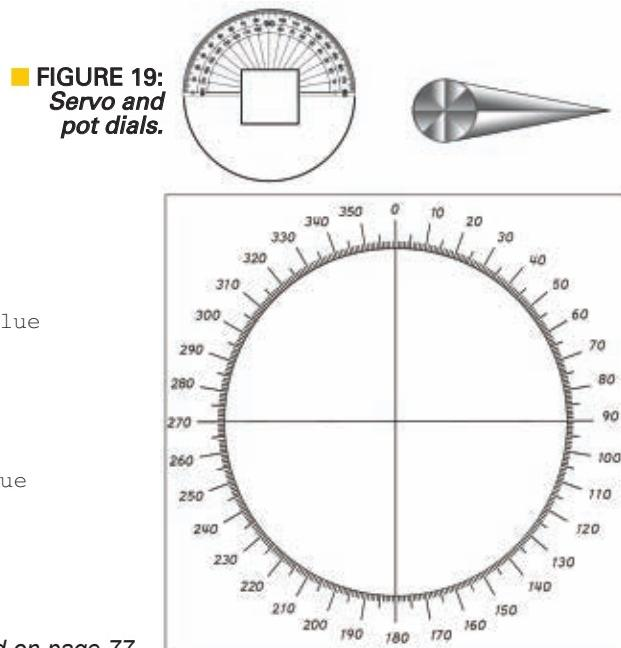

FIGURE 19:
- ❑ The images for the pot dial, servomotor dial, and pointer are shown in **Figure 19**. You can reuse the servomotor dial and pointer from Chapter 5 if you have it. Construct the dial and pointer as discussed in Chapter 5.